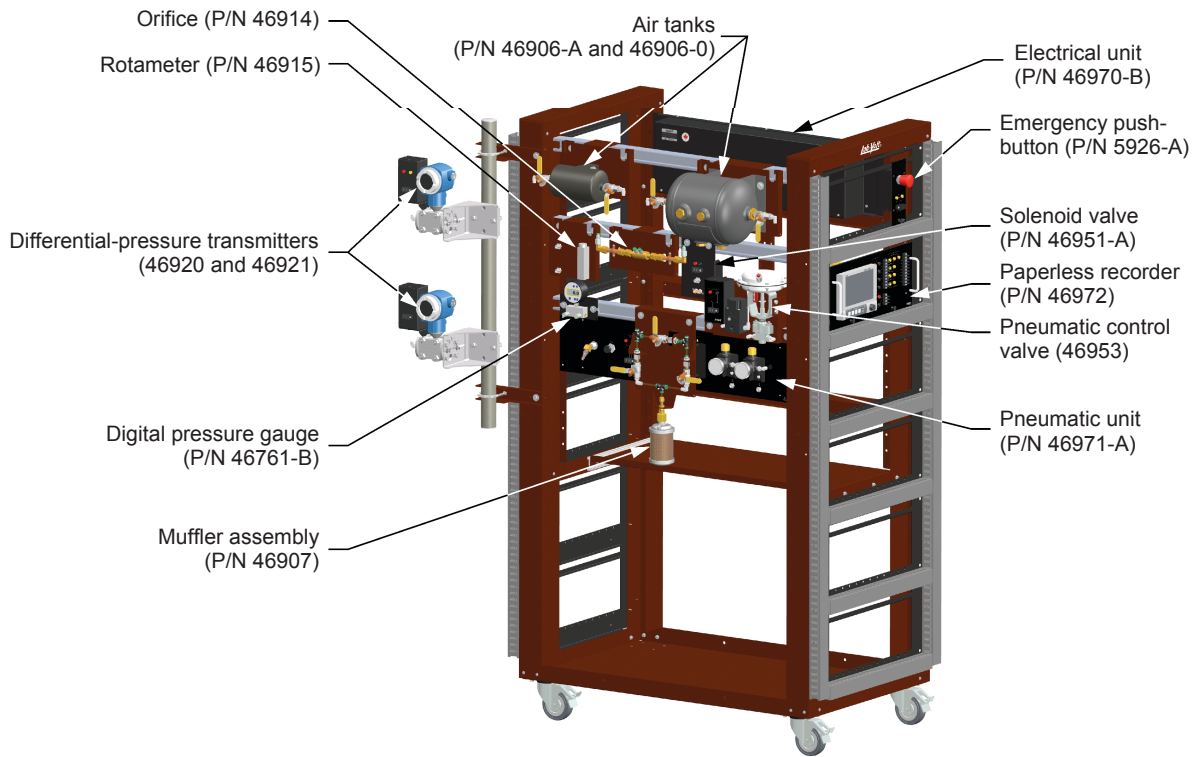

Figure 3-17. The Basic Air Pressure/Flow Training System, Series 3533.
3. Position and secure all the basic air pressure/flow equipment as shown in Figure 3-17. This fundamental setup, that is also presented at the beginning of the *Familiarization with the Training System* manual (P/N 85987), will be used throughout the manual.